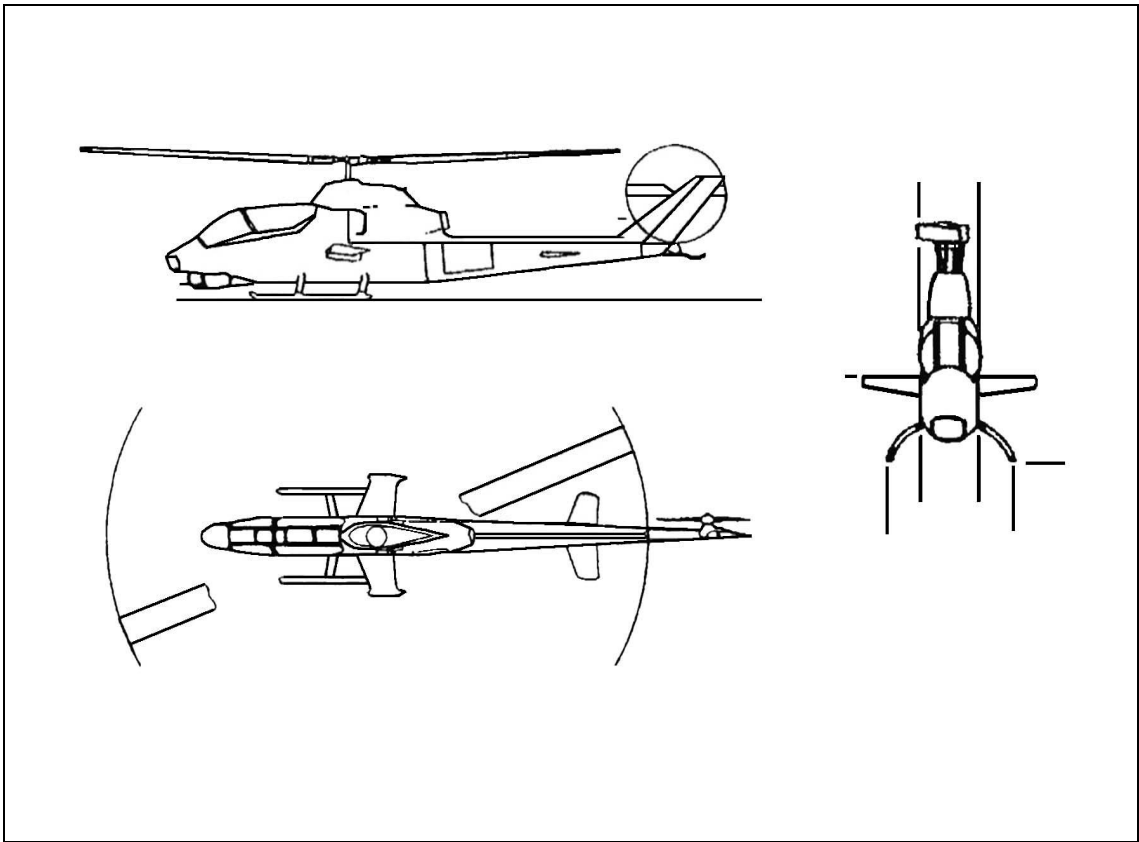

Figure B-3. AH 1S (Cobra).
a. **AH 1S Cobra.** Table B-3 shows specifications for the Cobra; Figure B-3 shows the aircraft from three angles: